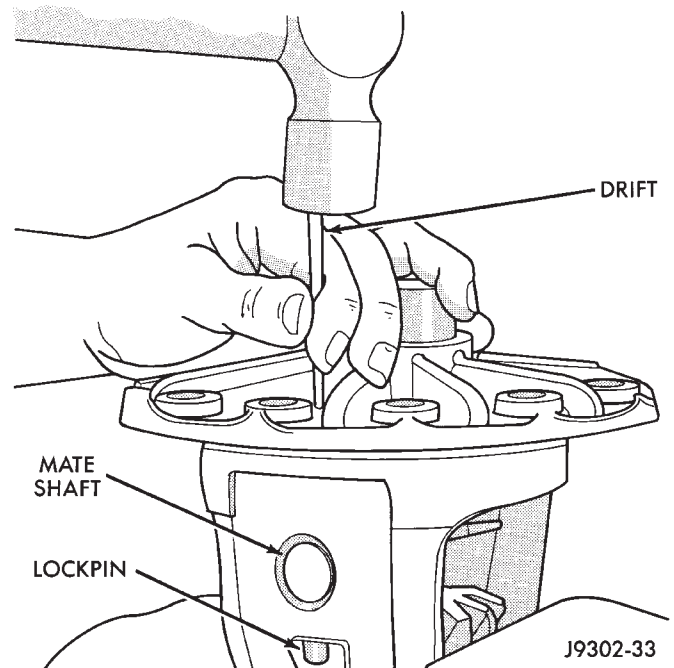

Fig. 29 Mate Shaft Lock Pin Removal
(4) Use a drift to remove the pinion gear mate shaft lock pin (Fig. 29).